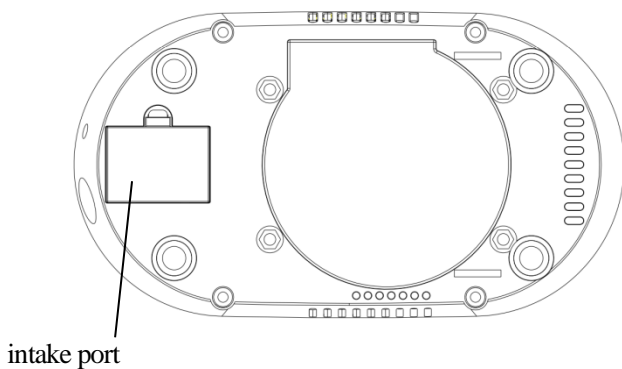

Figure 3 Install air filter
1) Install air filter: At the bottom of the oxygen generator, open the box cover, install the filter, insert the air cover and fasten the cover (see Figure 3).